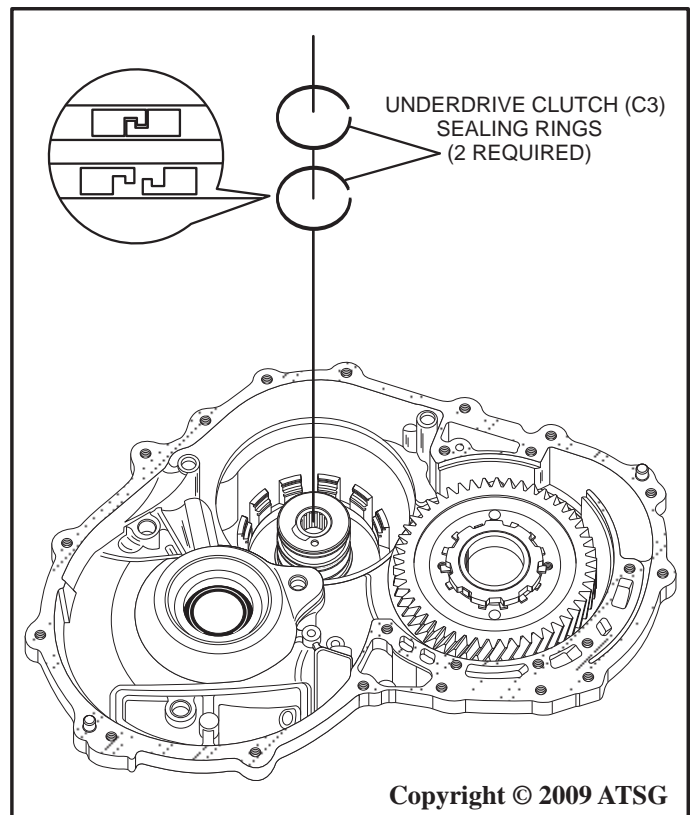

Figure 186
80. Install two new underdrive clutch (C3) sealing rings onto the ring support in the transaxle case as shown in Figure 186.
81. Make sure the rings lock together as shown in Figure 186.